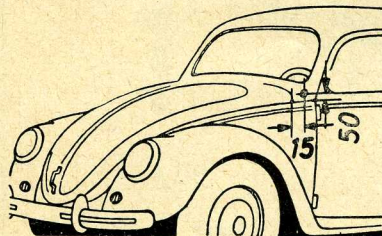

Fig. 7 15 mm = 0,59"
- a) Using the drilling template supplied, drill holes as shown in Fig. 7.